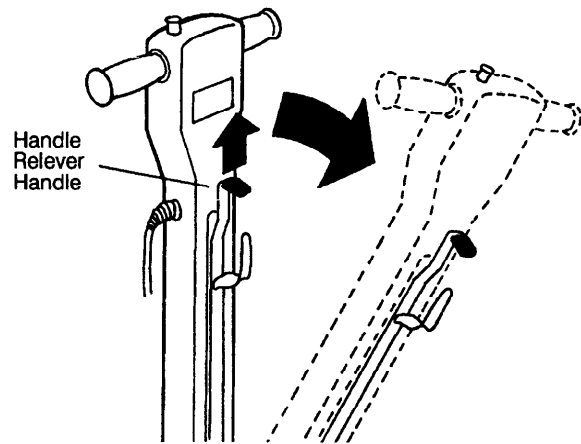

Fig. 2
7. Adjust handle to a comfortable height: Lift handle release lever and lower handle to desired height. Handle will lock into position when release lever is released (Fig. 2).